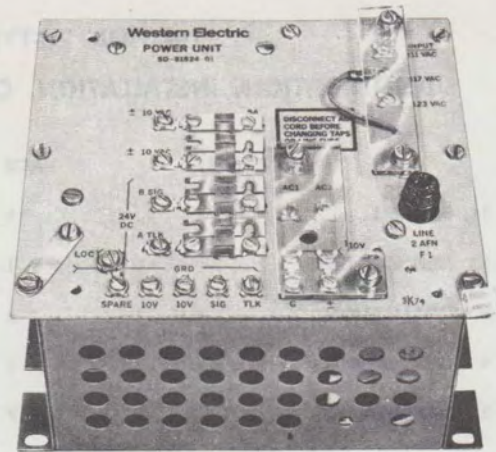

Fig. 2—19C3 Power Unit (Rack Mounted)
19C3—19A3 with hardware for mounting in a Key Service Unit or relay rack (see Fig. 2).
**4.08** The 19C3 and 20C3 power units are equipped with a spare ground terminal provided for grounding one side of a supplementary 18 VAC supply, when required for use in the system. (Fig. 2.)